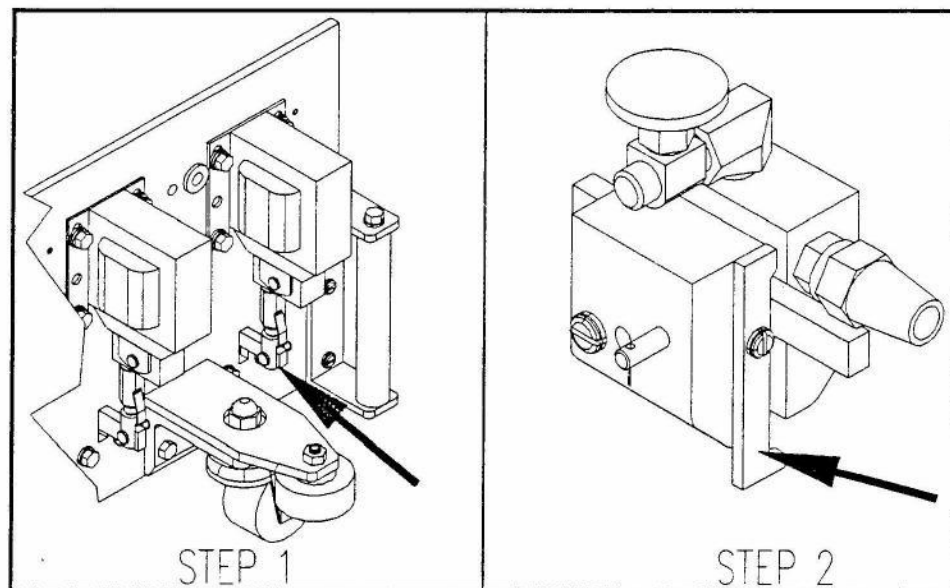

Figure 2
7. Remove the cleaner pad from its storage tube and wipe the pad free of excess cleaner. Install the cleaner pad in to the GEMINI. The cleaner pad linkage has locks on it to prevent the cleaner pad from moving vertically except when the solenoids have been engaged. Depress each cleaner pad solenoid slightly by hand to release these locks and allow entry of the cleaner pad into its proper location. The row of holes in the cleaner pad with the most holes should be positioned directly under the cleaner manifolds. The cleaner pad is tapered. The thicker part of the taper should be toward the dash end of the GEMINI and the thinner part of the taper should be toward the pin deck of the end of the GEMINI with the thinner part directly under the cleaner manifolds. See Figures 2, 3, & 4.